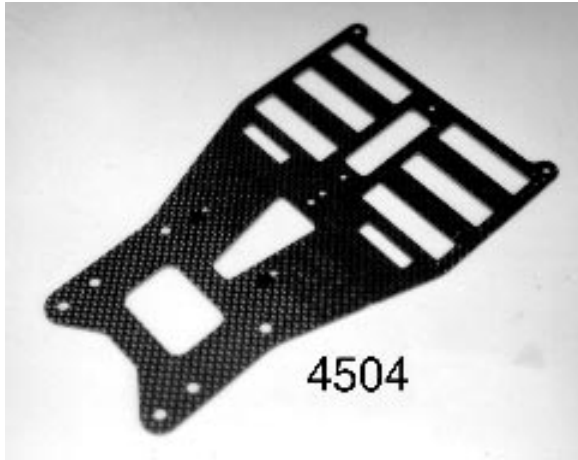

Fig. 1
□ **Figs. 1 & 2** We now want to take out the #4504 .084" RC12LC Graphite chassis. Look at both sides of the chassis. The bottom will be the side with the countersunk holes. Before we can assemble the car we need to prepare the chassis by filing the battery slots. Use your file to bevel the battery slots on the top of the chassis (so that the edges are at an angle). This is done to prevent the battery cells from resting on a sharp edge which could cut through the battery sleeve (shrink wrap) and could cause the battery to short out on the chassis.